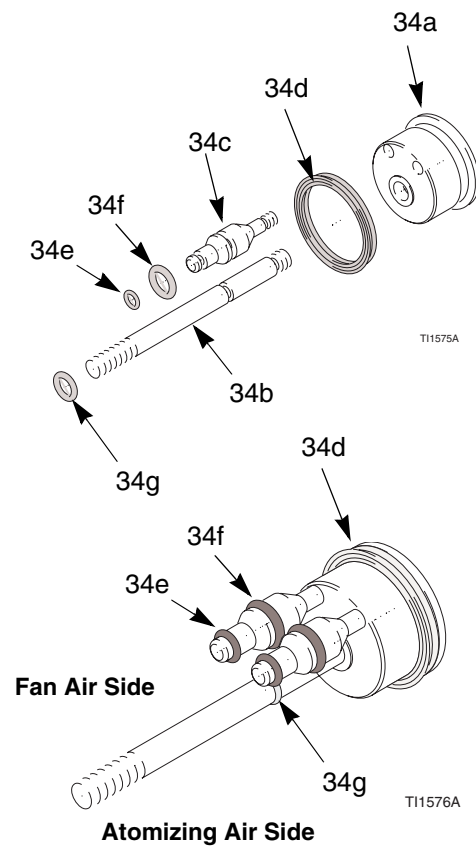

Fig. 26. Piston O-Rings
5. Inspect the o-rings (34e, 34f, 34g) and u-cup packing (34d) for damage. See Table 5 and FIGURE 26.